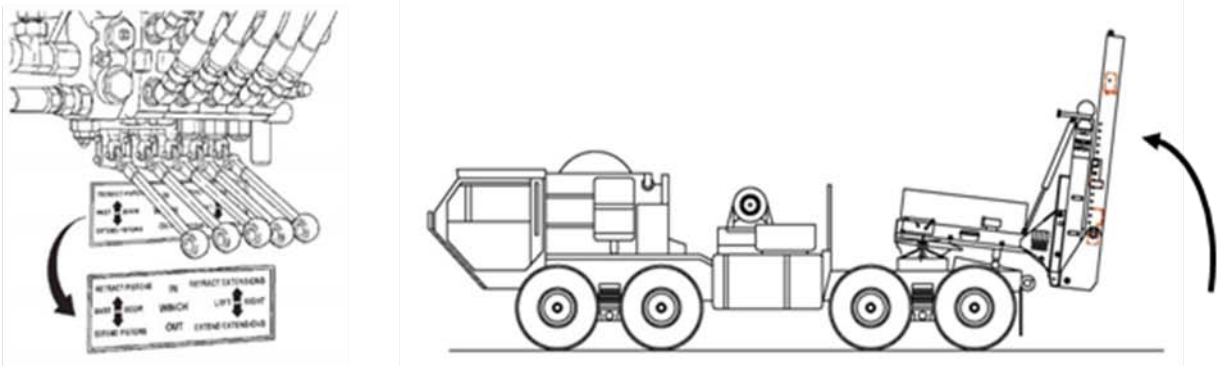

Figure 2 – Booms retracted to vertical
2. Using valve control levers, BOOM RETRACT to raise boom to a closed vertical position (figure 2).